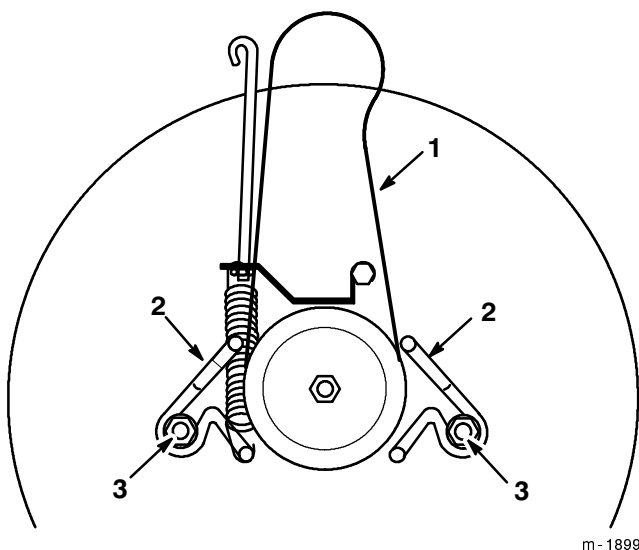

Figure 47
2. Loosen the belt guide mounting bolts and move belt guides away from the pulley (Fig. 47).
1. Install the new belt around the blade pulley and inside both belt guides (Fig. 47).
2. Adjust the belt guides so they are 1/8" away from the pulley and tighten mounting bolts (Fig. 47).